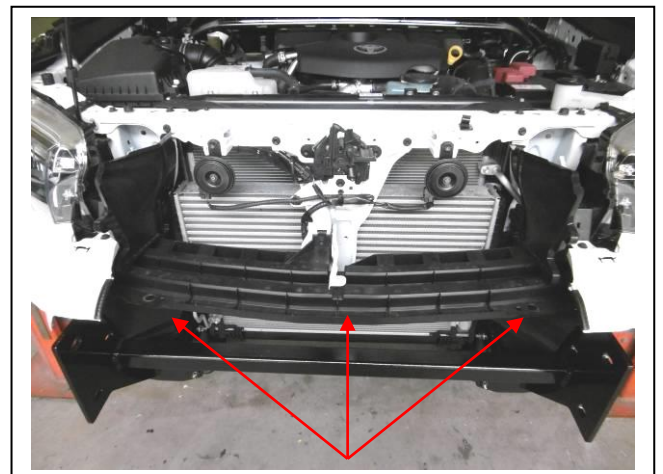

Figure 4.
7. Remove plastic bumper stiffener, three 10mm head bolts and left and right hand air ducts, 3 push pull plastic clips (per side). **See figure 4.**